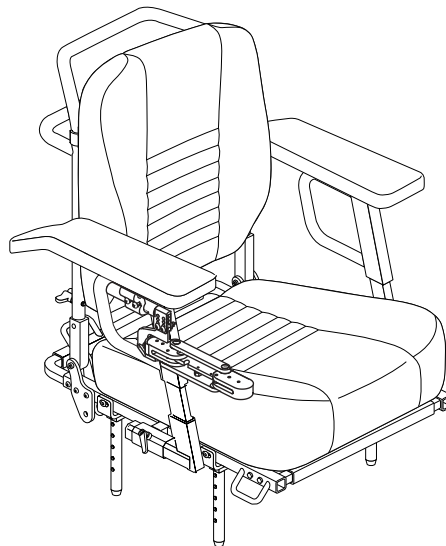

Figure 11b. Mounted Swing-away Joystick
4. Tighten the button head screws to secure the swing-away joystick mount to the armrest. See figure 11b.